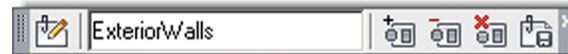

FIGURE 17.9 Refedit toolbar.
- A new toolbar, called *Refedit*, may appear (shown in Fig. 17.9). If it does not, bring it up via Tools→Toolbars→AutoCAD.